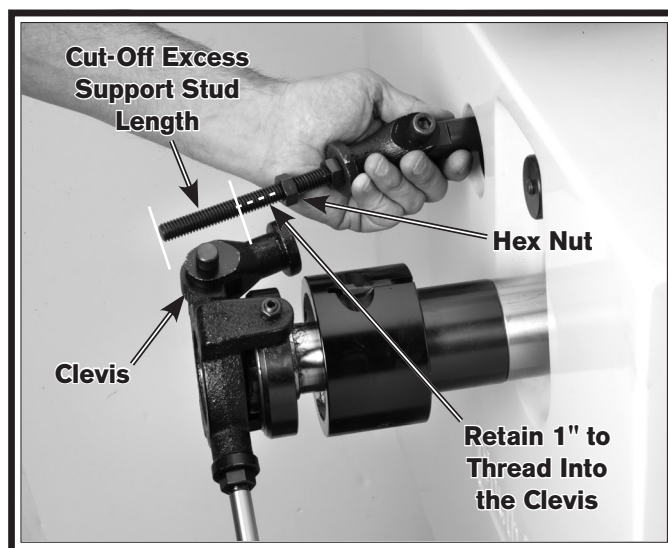

**Figure 7. Chuck sleeve installation.**
- 15.** When the chuck sleeve contacts the lock ring, press down on the thumb lever, as shown in **Figure 7**, and engage the lock ring with the chuck sleeve.
21. While holding the collet against the collet adapter with your right hand, use your left hand to push down on the chuck-sleeve thumb lever (**Figure 7**) and rotate the chuck sleeve until the draw tube threads onto the collet.